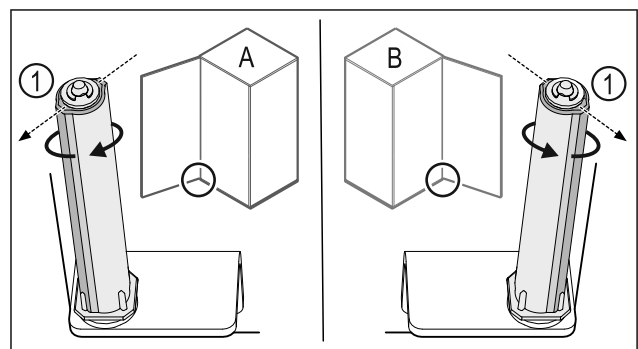

Fig. 50 Left-hinged (A) / Right-hinged (B)
- ▶ Turn the closing system against the resistance until the bar of the closing system Fig. 50 (1) points outwards.